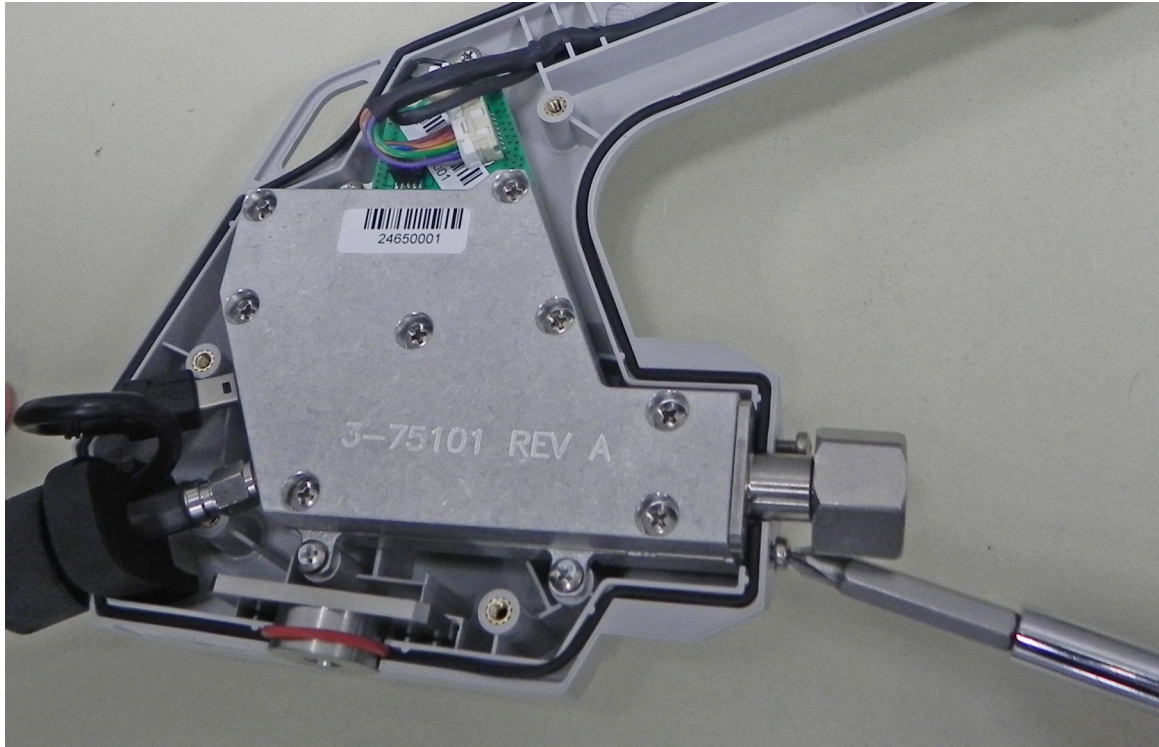

Figure 3-5. Remove 2 Screws Below N Connector Flange
2. Use a Phillips screwdriver to remove the two screws securing the N connector flange to the bottom half of the instrument case (Figure 3-5).